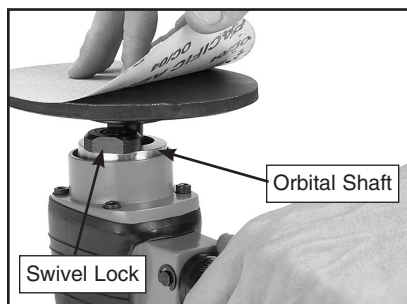

Figure 2. Attaching sanding disc.
5. Attach a 6" pressure sensitive adhesive (PSA) sanding disc to the sanding pad, as shown in **Figure 2**.